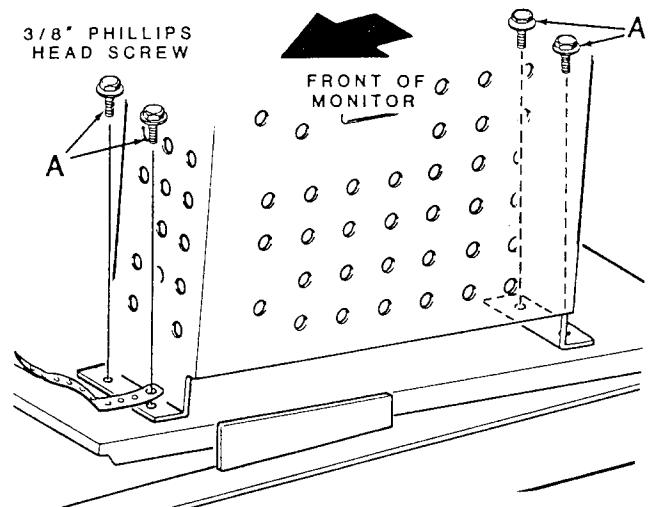

Figure 3-17. Power Supply Assembly Screws
4. Remove the four 3/8-inch, phillips thread-forming screws labeled A in Figure 3-17.